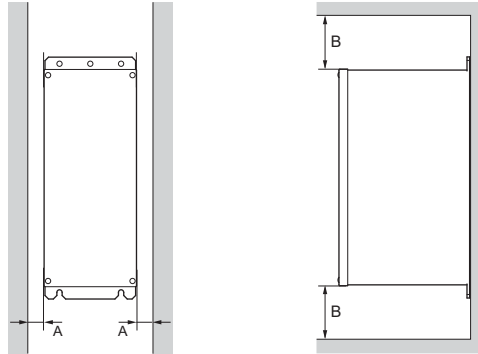

Figure 10 LKEB Braking Resistor Unit Installation Spacing
*Figure 8* and *Figure 10* show the installation distance required to maintain sufficient space for airflow and wiring.